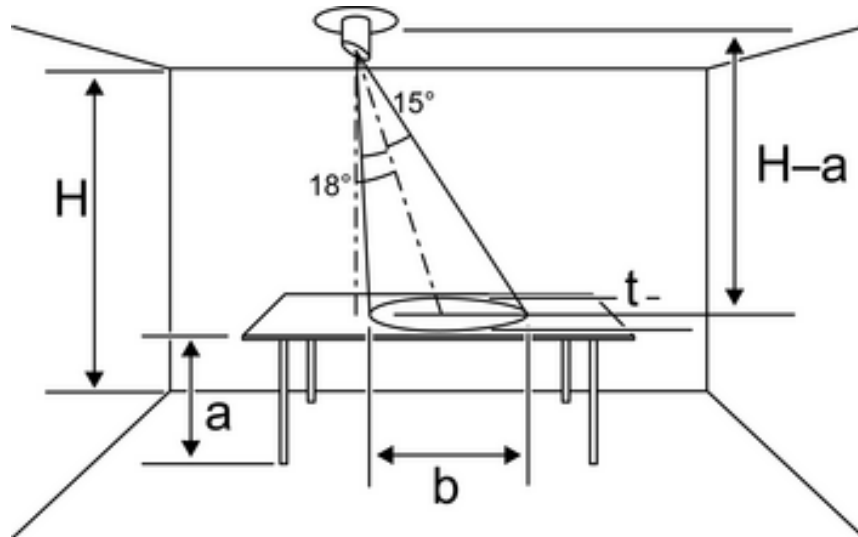

Figure 3: Rigid fibre-optic rod with sloping incidence
- If installation is not possible directly over the work surface, then install the brightness controller with a side offset (figure 3). The detection cone is then to the side of the surface to be measured.
The controller is above and to the side of the work surface (figure 3).
- Insert the rigid fibre-optic rod with a sloping incidence (7) approx. 10 mm into the sensor opening (8).
- Align the rigid fibre-optic rod (7) in such a way that the longer side of the rod points towards the work surface to be measured (figure 3).
- i** Calibrate the controller when using the rigid fibre-optic rod with sloping incidence (7).